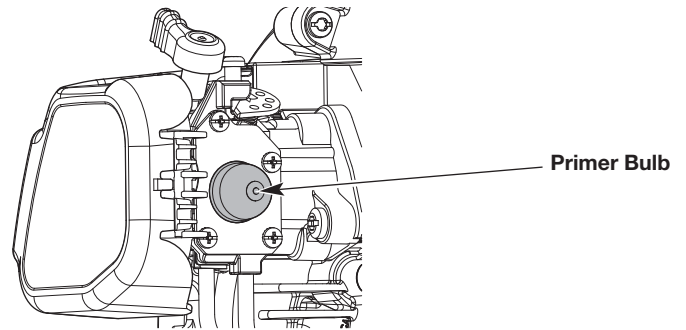

Fig. 7
3. Slowly press and release the primer bulb **10 times** (Fig. 7). If fuel cannot be seen in the primer bulb, press and release the primer bulb until fuel is visible.